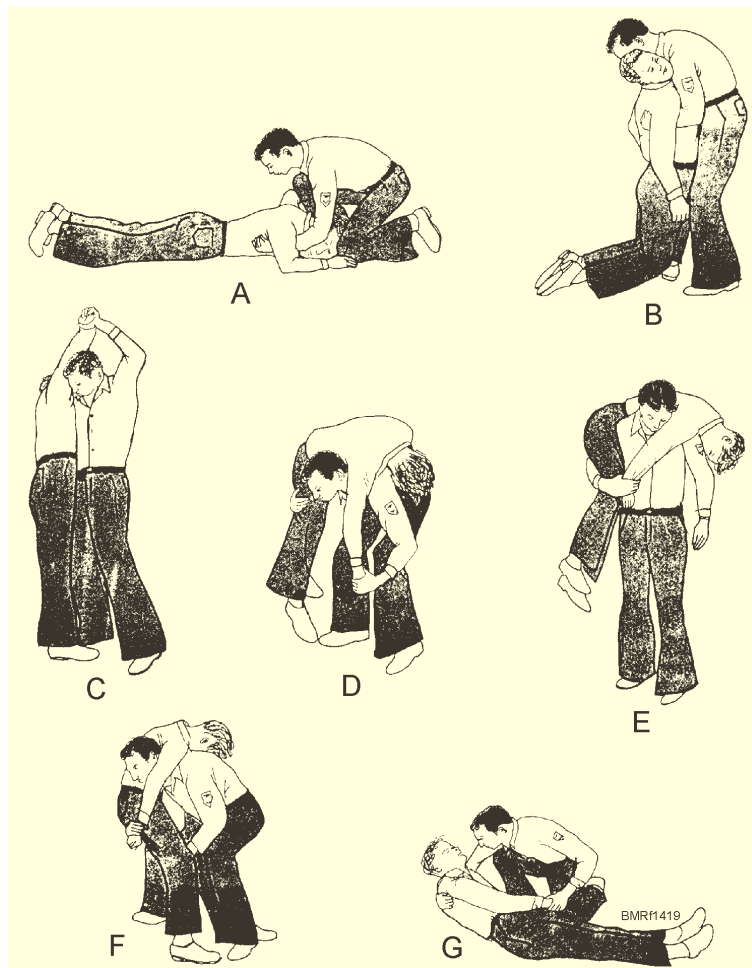
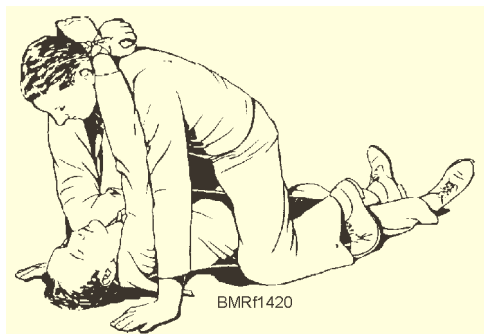

Figure 14-19.—Fireman's carry.
Figure 14-20.—Tied-hands crawl.
In you don't have any help, there are several methods you can use to move a victim alone. One method is simply to pick up and carry the victim in your arms, but it can be quite a task if the victim weighs more than you. If a blanket is handy, the victim can be placed upon it and dragged. Two other means are the fireman's carry (fig. 14-19) and the tied-hands crawl (fig. 14-20).
One of the easiest ways to carry an unconscious person is by the fireman's lift, also called the *fireman's carry* (fig. 14-19).
1. Place the victim face down, as shown in figure 14-19, view A. Kneel on one knee at the head, facing the victim. Pass your hands under the armpits.
2. Raise the victim, as shown in figure 14-19, view B. Take a better hold across the back.
3. Raise the victim to a standing position and stick your right leg between the victim's legs, as shown in figure 14-19, view C. Grasp the victim's right wrist in your left hand and swing the arm around the back of your neck and down your left shoulder.
4. Stoop quickly and pull the victim across your shoulders and, at the same time, put your right arm between the victim's legs, as shown in figure 14-19, view D.
5. Grasp the victim's right wrist with your right hand and straighten up, as shown in figure 14-19, view E.
The procedure for lowering the victim to the deck is shown in figure 14-19, views F and G.
The tied-hands crawl shown in figure 14-20 may be used to drag an unconscious person for a short distance; it is particularly useful when you must crawl underneath a low structure.